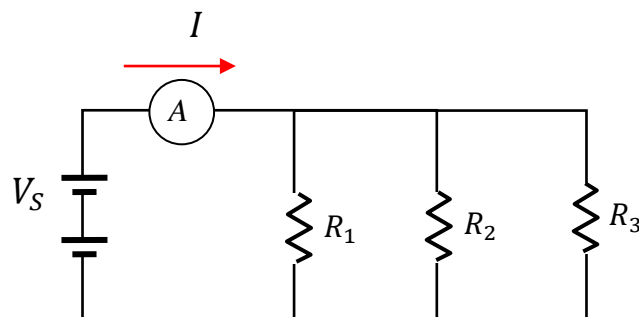

Figure 9. Parallel circuit setup
- Now use this parallel combination of R_1 , R_2 and R_3 to construct the parallel circuit shown in Figure 9, with the ammeter in series with the batteries so that it measures the total current I (the current through the batteries).